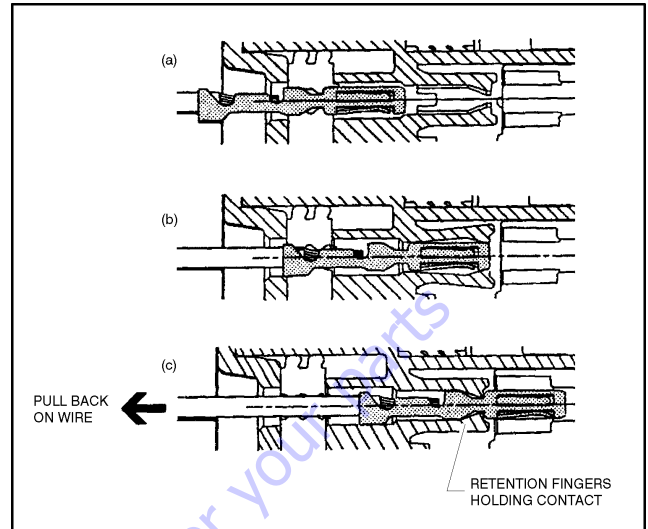

Figure 7-7. Connector Assembly (2 of 4)
1. To insert a contact, push it straight into the appropriate circuit cavity as far as it will go (See Figure 7-7. Connector Assembly (2 of 4)).
2. Pull back on the contact wire with a force of 1 or 2 lb to be sure the retention fingers are holding the contact (See Figure 7-7. Connector Assembly (2 of 4)).